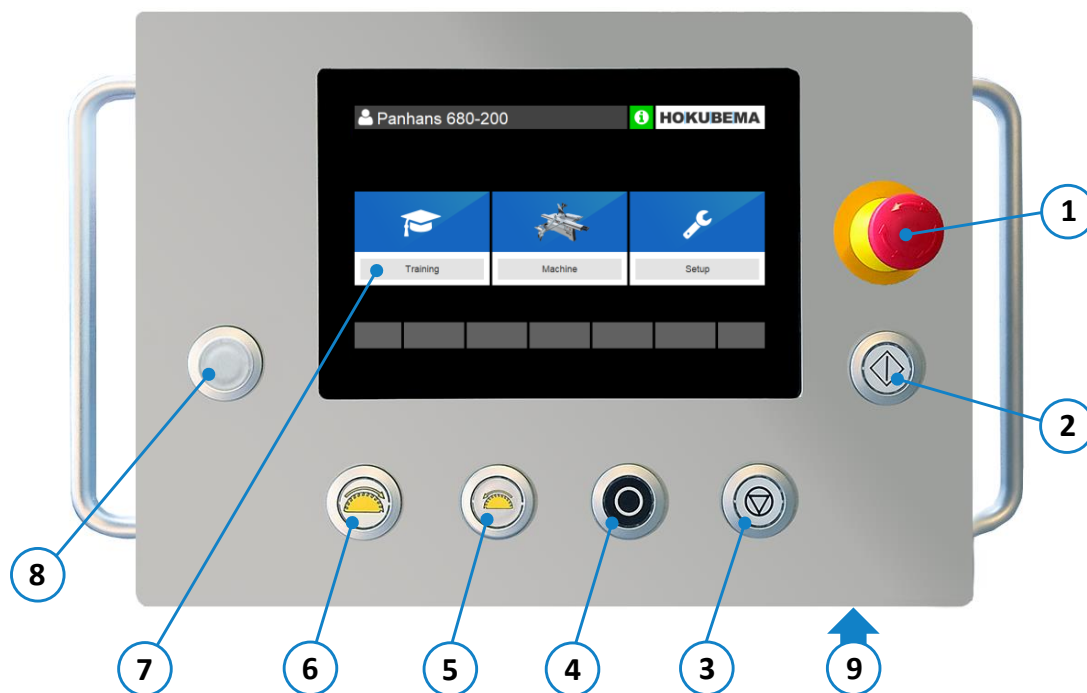

Figure 38: Control elements
5. The rip fence positions itself automatically after pressing the positioning button (2) (see ⇒ Figure 38).